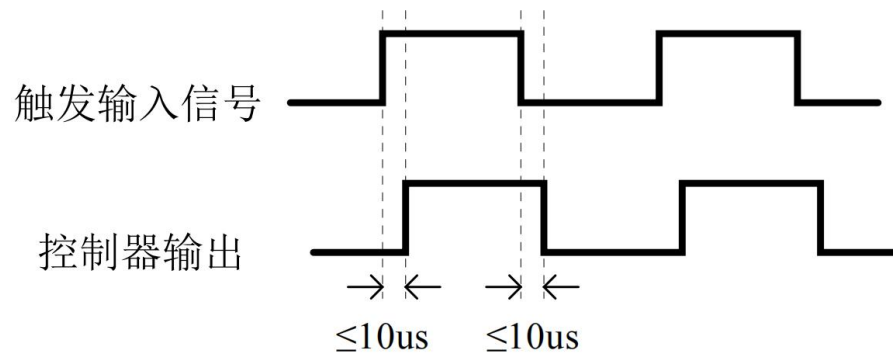

Figure 6 Timing Diagram of Constant Off Mode
**Constant Off Mode:** When the trigger input signal of the controller is valid, the light source turns on. Taking high level validity as an example to explain the timing relationship, see Figure 6: